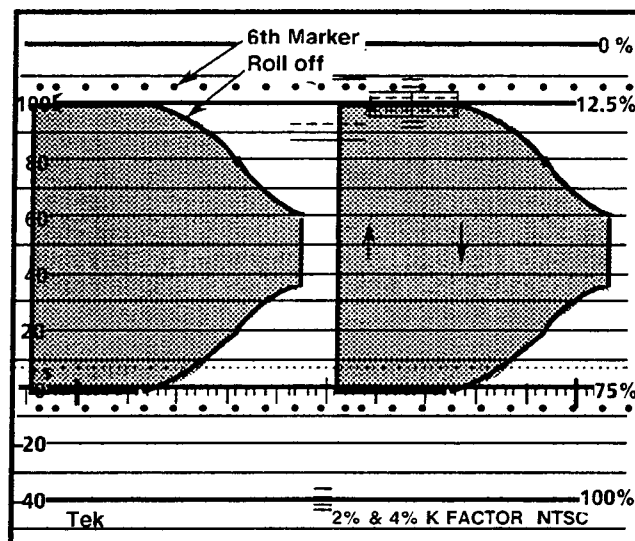

Fig. 5-19. Adjusting for best flat response.
- e. ADJUST — C195 (CH-A Comp.) for flat response at 6 MHz on the test oscilloscope. See Fig. 5-19.